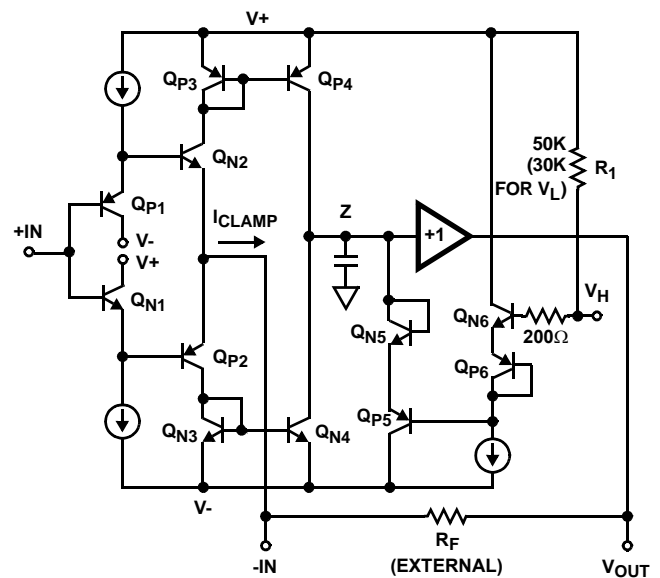

FIGURE 1. HFA1130 SIMPLIFIED  $V_H$  CLAMP CIRCUITRY
Figure 1 shows a simplified schematic of the HFA1130 input stage, and the high clamp ( $V_H$ ) circuitry. As with all current feedback amplifiers, there is a unity gain buffer ( $Q_{X1} - Q_{X2}$ ) between the positive and negative inputs. This buffer forces  $-IN$  to track  $+IN$ , and sets up a slewing current of  $(V_{-IN} - V_{OUT})/R_F$ . This current is mirrored onto the high impedance node (Z) by  $Q_{X3} - Q_{X4}$ , where it is converted to a voltage and fed to the output via another unity gain buffer. If no clamping is utilized, the high impedance node may swing within the limits defined by  $Q_{P4}$  and  $Q_{N4}$ . Note that when the output reaches its quiescent value, the current flowing through  $-IN$  is reduced to only that small current ( $-I_{BIAS}$ ) required to keep the output at the final voltage.
The clamped output voltage will not be exactly equal to the voltage applied to  $V_H$  or  $V_L$ . Offset errors, mostly due to  $V_{BE}$  mismatches, necessitate a clamp accuracy parameter which is found in the device specifications. Clamp accuracy is a function of the clamping conditions. Referring again to Figure 1, it can be seen that one component of clamp accuracy is the  $V_{BE}$  mismatch between the  $Q_{X6}$  transistors, and the  $Q_{X5}$  transistors. If the transistors always ran at the same current level there would be no  $V_{BE}$  mismatch, and no contribution to the inaccuracy. The  $Q_{X6}$  transistors are biased at a constant current, but as described earlier, the current through  $Q_{X5}$  is equivalent to  $I_{CLAMP}$ .  $V_{BE}$  increases as  $I_{CLAMP}$  increases, causing the clamped output voltage to increase as well.  $I_{CLAMP}$  is a function of the overdrive level ( $V_{-IN} - V_{OUTCLAMPED}$ ) and  $R_F$ , so clamp accuracy degrades as the overdrive increases, or as  $R_F$  decreases. As an example, the specified accuracy of  $\pm 60mV$  for a 2X overdrive with  $R_F = 510\Omega$  degrades to  $\pm 220mV$  for  $R_F = 240\Omega$  at the same overdrive, or to  $\pm 250mV$  for a 3X overdrive with  $R_F = 510\Omega$ .